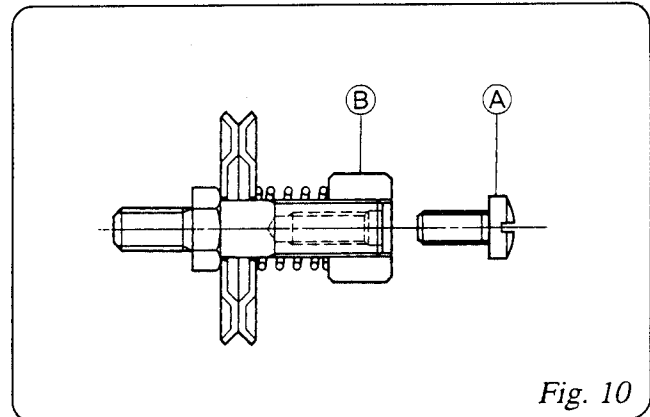

Fig. 10
#### 1. Thread Tension (Fig.10)
The thread tension spring is preset at the factory to sew PP woven cloth bags. If some adjustment is needed, first loosen screw (A) (9/64S40054) and adjust the thread tension nut (B) (245092) as per Fig.10. When the adjustment is finished, retighten screw to lock the thread tension nut.